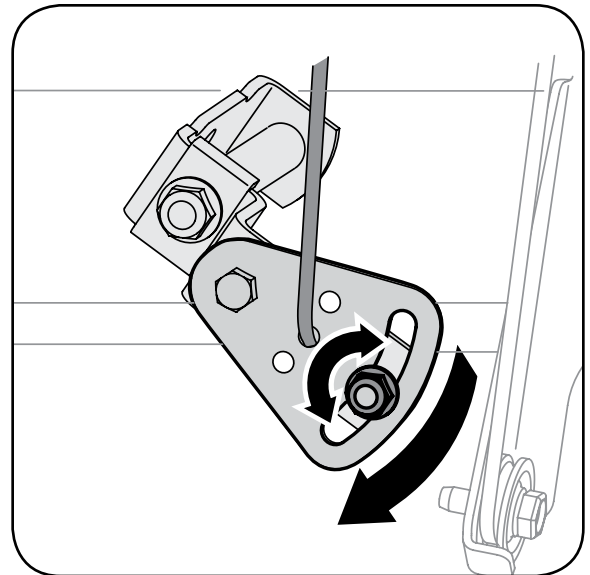

Figure 5-1
2. Loosen the hex nut on the shift cable index bracket, Figure 5-1.